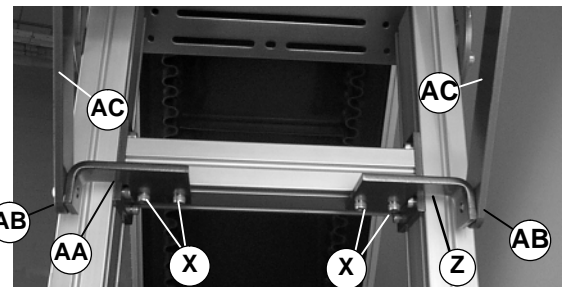

Figure 10
3. Loosely attach right offset plate (Z of Figure 10) to nuts (Y) with two (2) screws (X).